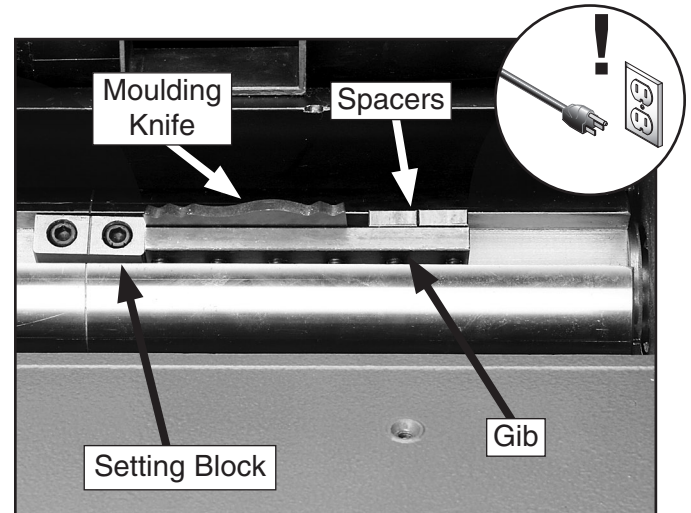

Figure 19. Moulding knife installation.
7. Balance the opposite end of the gib using the provided spacers, as shown in **Figure 19**. Always ensure that the spacers used are the same width as the moulding knife.